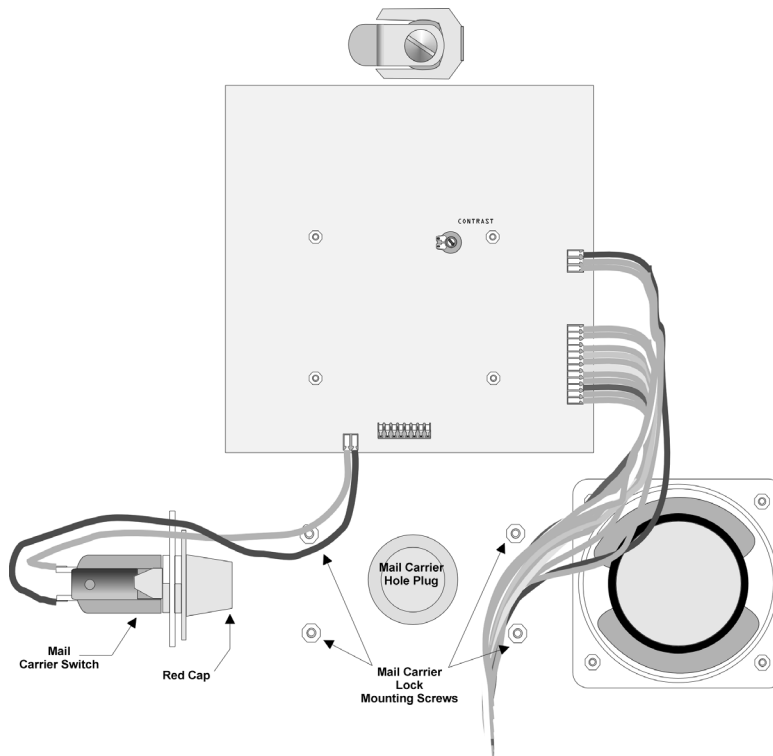

Figure 3-15 Inside view of 5083/5084 Control Panel
2. Install the lock on the 4 posts on the inside of the door. Use the #8-32 nuts and lock washers (both supplied) to secure the mail carrier lock (see Figure 3-15).
3. Remove the red cap from the mail carrier lock button. (See Figure 3-15 for red cap location.)